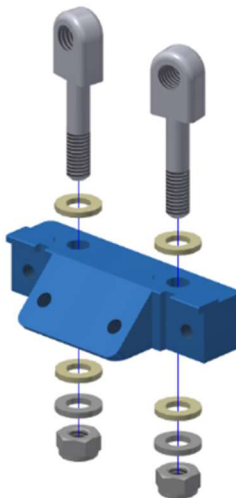

Figure 5-61. Attach the two Clavicle-Sternum Adaptors (474-3041) to the Rib 1 to Sternum Adaptor (474-3040-A)
- 5.3.25 Attach the two Clavicle-Sternum Adaptors (474-3041-A) to the Rib 1 to Sternum Adaptor (474-3040-A) with one M6 Flat Washer Plain Nylon, one M6 Flat Washer Plain Zinc, and a M6 X 1 Hex Lock Nut Zinc (Figure 5-61).